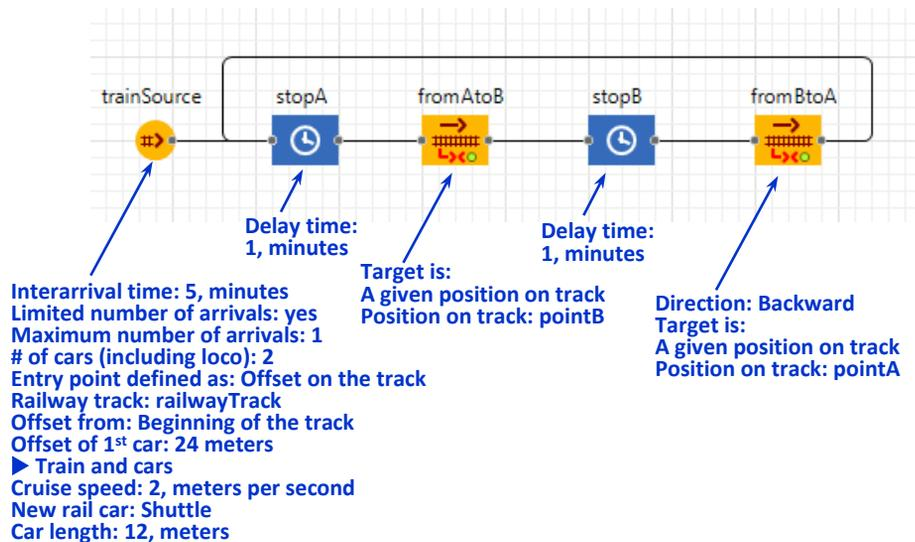

Figure 9.27 The rail part of the Airport shuttle train flowchart
8. In the **Main** agent, create the train process flowchart as shown in Figure 9.27.